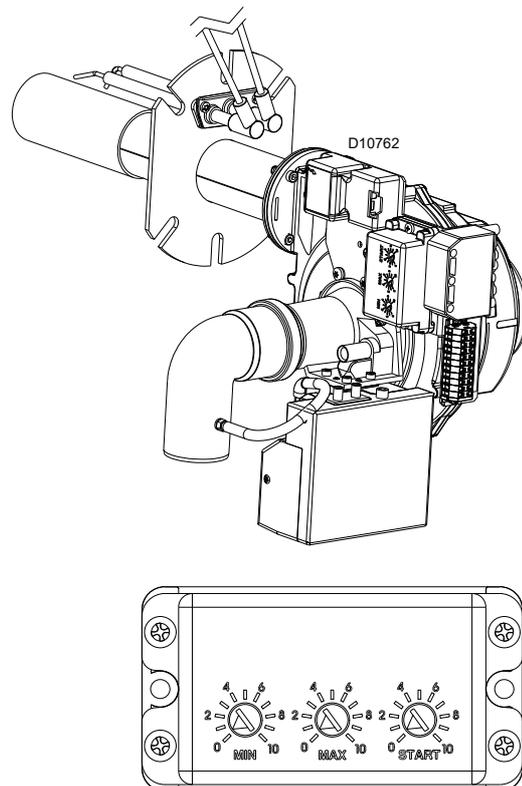

Fig. 11
- Check the trimmer settings on the control box (Fig. 11).
Modulation is based on variable-speed technology. Combustion air delivery can be adjusted by varying the motor's speed (rpm). The proportioning gas train delivers the right amount of fuel, depending on the pressure detected in the purging circuit. Hence the output delivered is adjusted by varying the motor's speed of rotation. The speed of the motor can be adjusted by means of three “Trimmers” (Fig. 11).
Maximum output should match the value required by the boiler that is used. To increase or decrease its value, adjust the trimmer MAX located on the control box Fig. 11.
Minimum output should match the value required by the boiler that is used. To increase or decrease its value, adjust the trimmer MIN located on the control box (Fig. 11).
The ignition output can be varied by acting on the trimmer START located on the control box (Fig. 11).